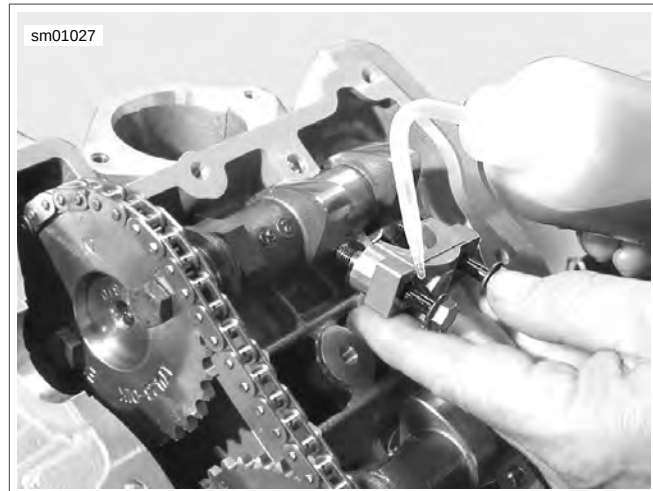

Figure 3-46. Lubricate Journal Caps and Fasteners
10. See Figure 3-46. Lubricate cam journal caps and fasteners.